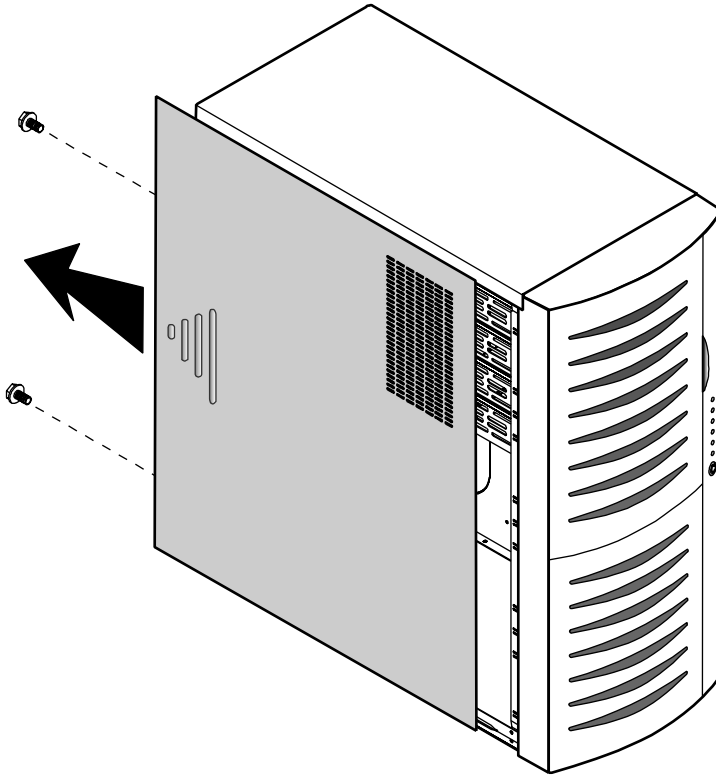

Figure 1: Removing the Side Panel
3. Remove the two screws that secure the side panel from the back panel of the system. See Figure 1.